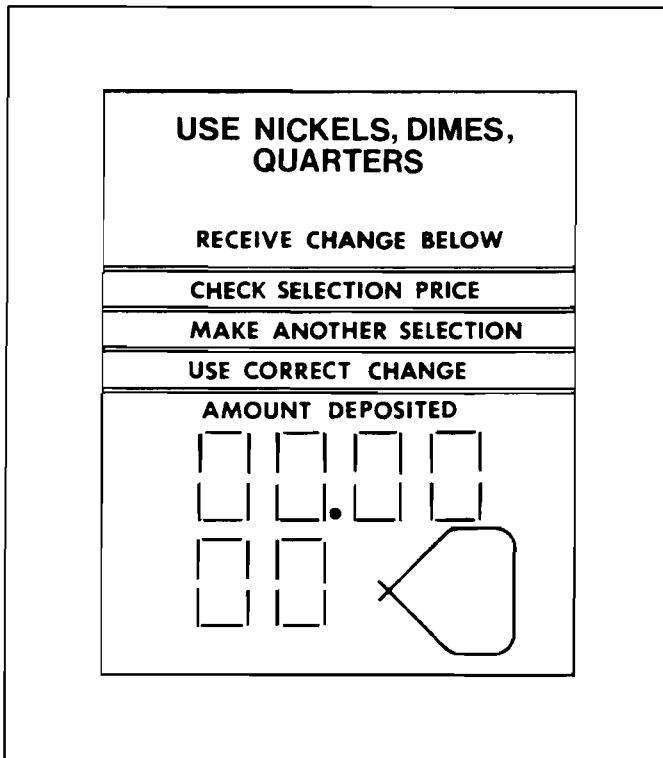

Figure 17.
B. Press button 11 on the selection panel and the display will show "00.00" (Figure 17) along with three audible beeps will be heard. This is the price display and can be incremented up by pressing button 11 and down by pressing button 12. Increments are 5¢ and each increase will produce one audible beep.